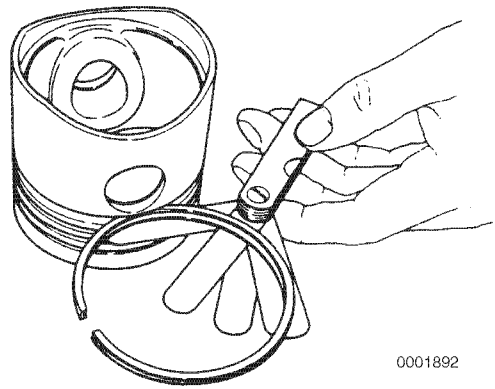

Figure 6-114
9. Place each compression piston ring in the groove as shown (**Figure 6-114**). Use a feeler gauge to measure the clearance between the piston ring and the piston ring land. Record the measurements. See *Piston Ring on page 6-18 for specifications*. Replace the piston if not within specification.